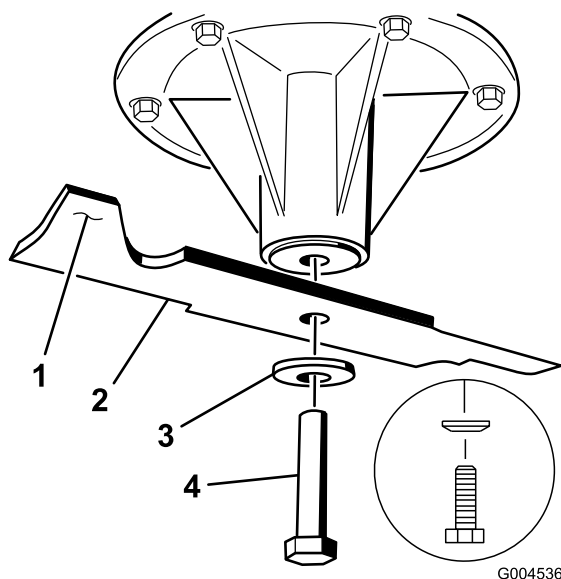

Figure 94
the sail area only (Figure 94). Repeat this procedure until the blade is balanced.
1. Install the blade onto the spindle shaft (Figure 94).
2. Install the spring disk and blade bolt. The spring disk cone must be installed toward the bolt head (Figure 94). Torque the blade bolt to 115-150 N-m (85-110 ft-lb).